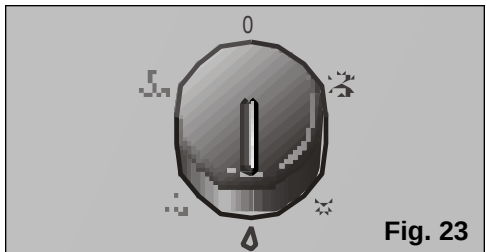

Fig. 23
- ☐ Select the dehumidification function $\uparrow$ on the control knob, Fig. 23.